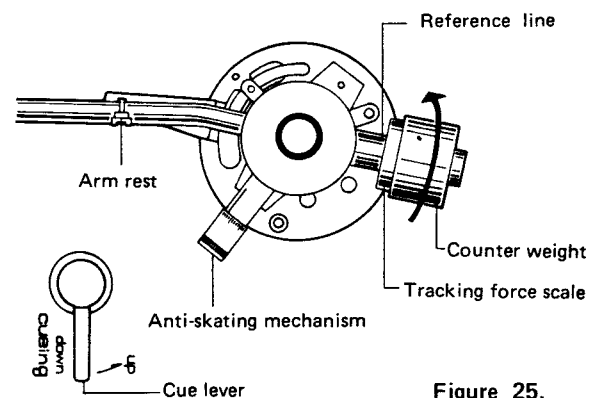

Figure 25.
(Note: This adjustment is important. Refer to Figure 25.)
- (1) First remove the stylus cover. Refer to Figure 25.
- (2) Check that the cue lever is in the down position, and that the tone arm itself is free to move from the arm rest.
- (3) Set the anti-skating mechanism to "0".
- (4) Rotate the counter weight clockwise or counterclockwise until the tone arm is equally balanced. Set the tracking force scale to "0" (without moving the counter weight).
- (5) Rotate the counter weight so that the dial reads "2.0".
- (6) Set the anti-skating mechanism to "2.0".